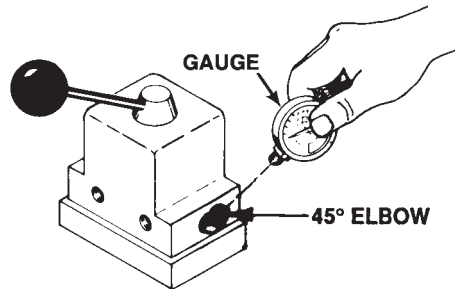

FIGURE 3
(1) Installation of the hydraulic gauge (refer to Figure 3):